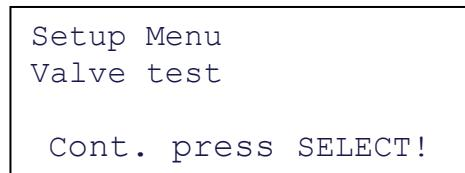

Fig. 13: leave the Valve test
10. After 6-8 seconds the display shows the following (see Fig. 13).